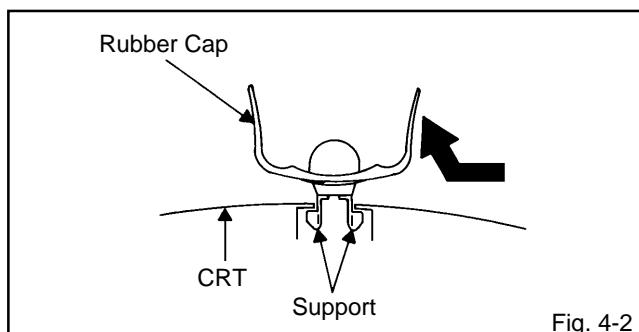

Fig. 4-2
2. Flip up the sides of the Rubber Cap in the direction of the arrow and remove one side of the support. (**Refer to Fig. 4-2.**)